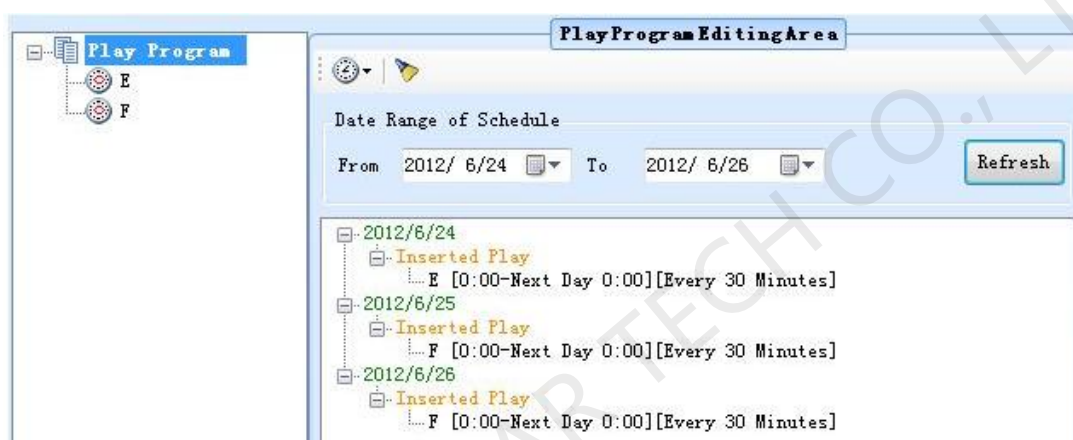

Fig. 10-14 F has higher priority than E
- If F is at the back of E in the play program, then F has the priority to be played on time confliction. The dispatching results will be shown as Fig.10-14.